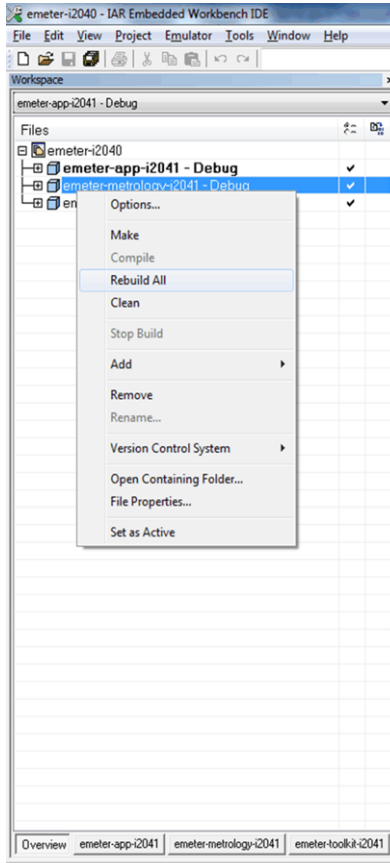

Figure 24. Metrology Project Compilation
5. Right-click the "emeter-metrology-i2041" option in the workspace window and select Rebuild All, as shown in Figure 24.